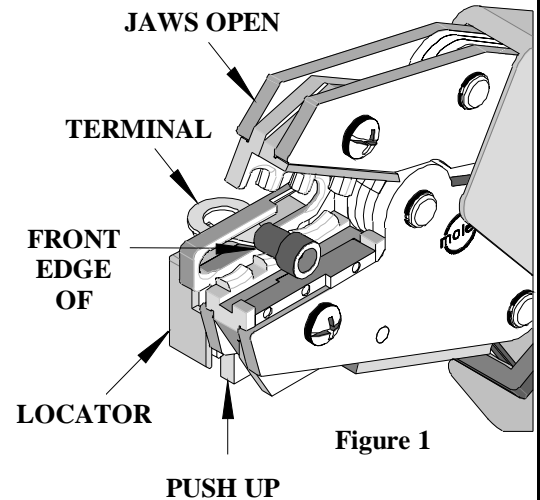

Figure 1
1. Push up on the locator blade and position the terminal with the barrel facing up into the proper color-coded nest with front edge of the barrel against the locator. See Figure 1. Release the locator blade to hold the terminal in position.